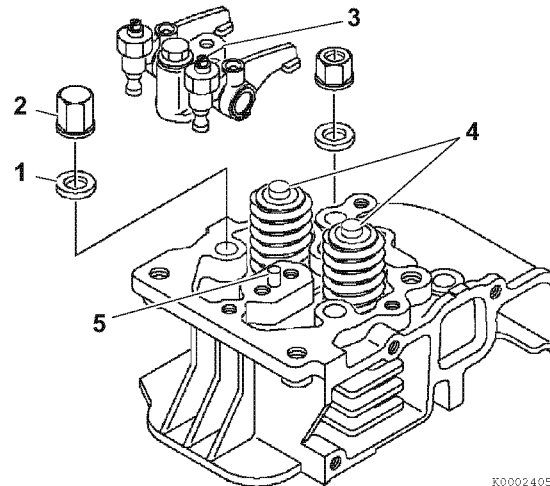

Figure 6-22
*Note: Install the cap nuts (2, **Figure 6-22**) on the studs that will be covered by the rocker arm cover.*
- Lightly oil the threads of the cylinder head studs. Install the washers (1, **Figure 6-22**) and nuts. Tighten to the specified torque in two steps as shown in the chart below. Tighten in an "X" pattern. *See Special Torque Specifications on page 6-17 for torque values.*
7. Place the valve caps (4, **Figure 6-22**) on the valve stem tips.
8. Install the rocker arm shaft assembly (3, **Figure 6-22**). Be sure the alignment pin (5, **Figure 6-22**) is in place.